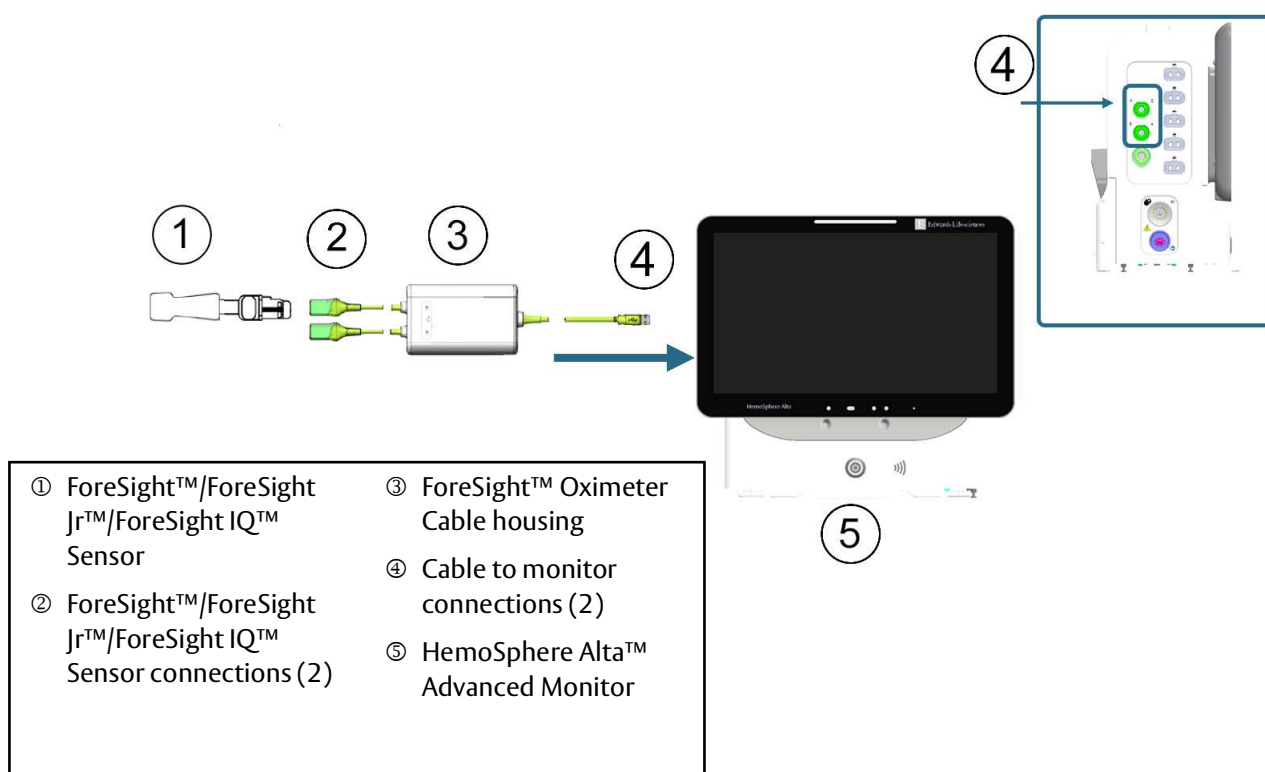

Figure 12-8 Tissue oximetry monitoring connection overview
- 2 Ensure proper orientation, then plug the ForeSight™ Oximeter Cable into the tissue oximetry port on the left panel of the monitor. See ④ in figure 12-8 on page 213. Up to two ForeSight™ Oximeter Cables can be connected to each port.